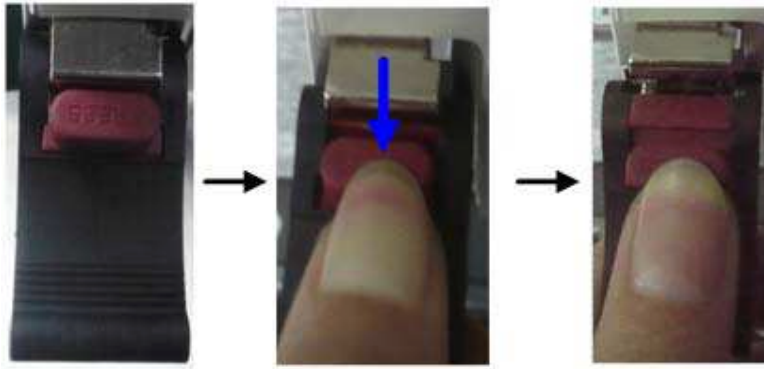

Figure 3-10 Loosening the Ejector
1. Loosen the two ejectors as shown in Figure 3-10.